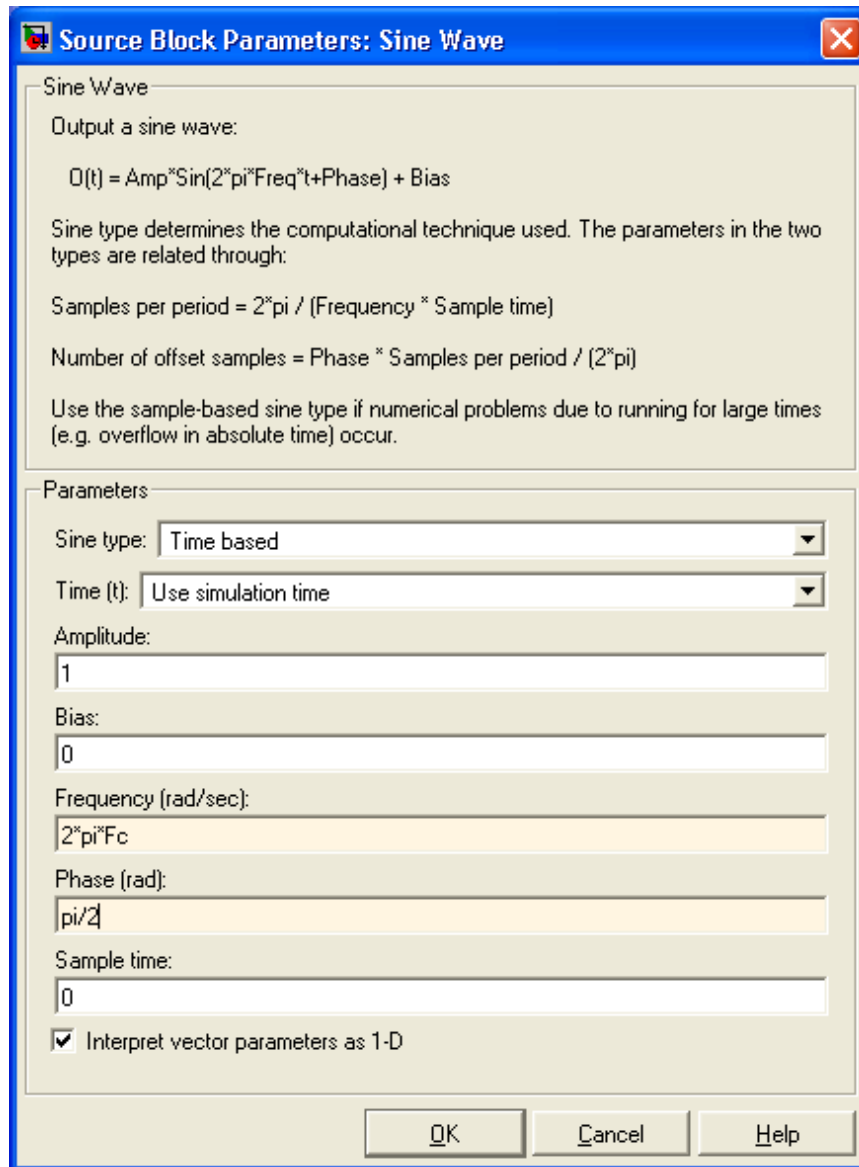

Figure 13: Parameters to Generate Carrier Signal
2. The Sine Wave block must be configured to generate the carrier cosine sequence. First open the Block Parameter window by double left-clicking on the Sine Wave block. In the Frequency field enter $2\pi F_c$. This is the radian frequency of the sinusoid. In the Phase field enter $\pi/2$. This will phase shift the sine wave by 90 degrees resulting in a cosine. Leave the default values in the other fields. Select OK to close the Block Parameter window. The finished Block Parameter window is shown in Figure 13. Note that you must generate F_c , the continuous-time frequency in cycles/second, using the MATLAB command window to put these variables in the workspace so SIMULINK can access them. This will be done prior to simulating this model.